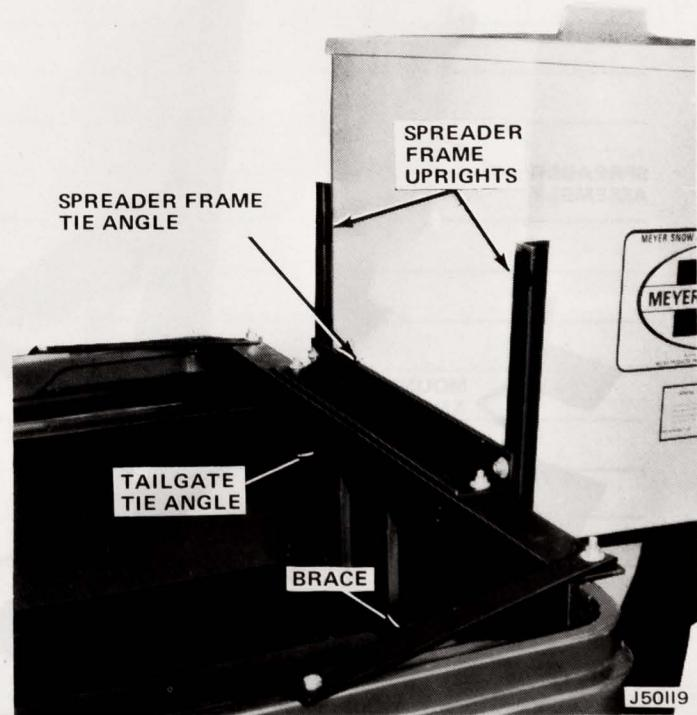

Fig. 4-3 Spreader Mounting Components
(1) Locate center of tailgate and scribe a chalk mark as a guide for centering spreader.
(2) Position tailgate tie angle on tailgate (fig. 4-2). Position spreader frame tie angle on tailgate tie angle and secure with carriage bolts, flat washers, and locknuts (fig. 4-3).
(3) Attach braces to tailgate tie angles with bolts, washers, and locknuts.